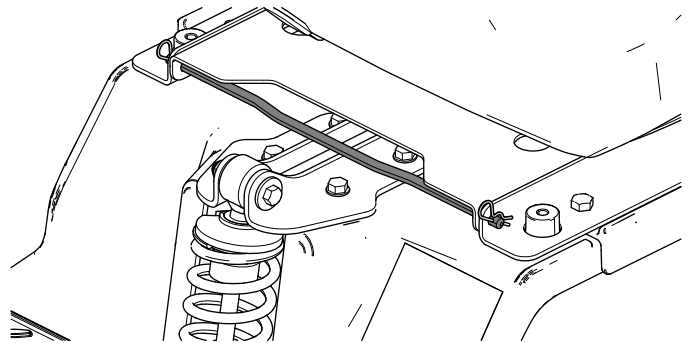

Figure 8
5. Install the other hairpin cotter on the other side of the seat-pivot rod (Figure 8).